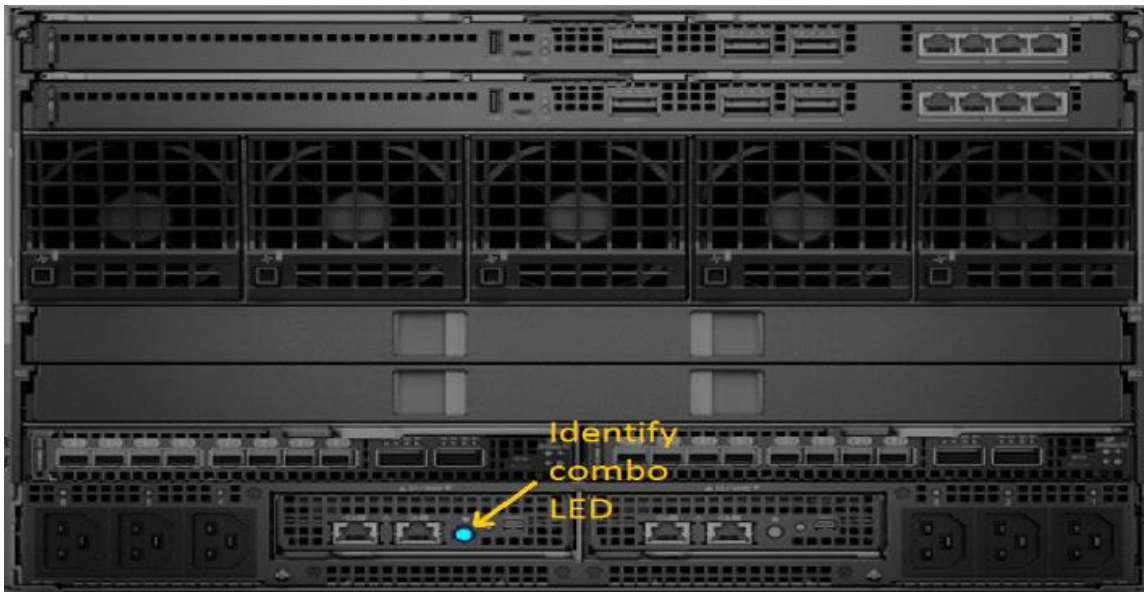

Figure 8 Identify Active MM via LED on the MM
- Physical Identify Combo LED on the back of the chassis (Figure 8). For more details on Identify Combo LED please refer to “PowerEdge MX7000 At-the-box System Identify” whitepaper.